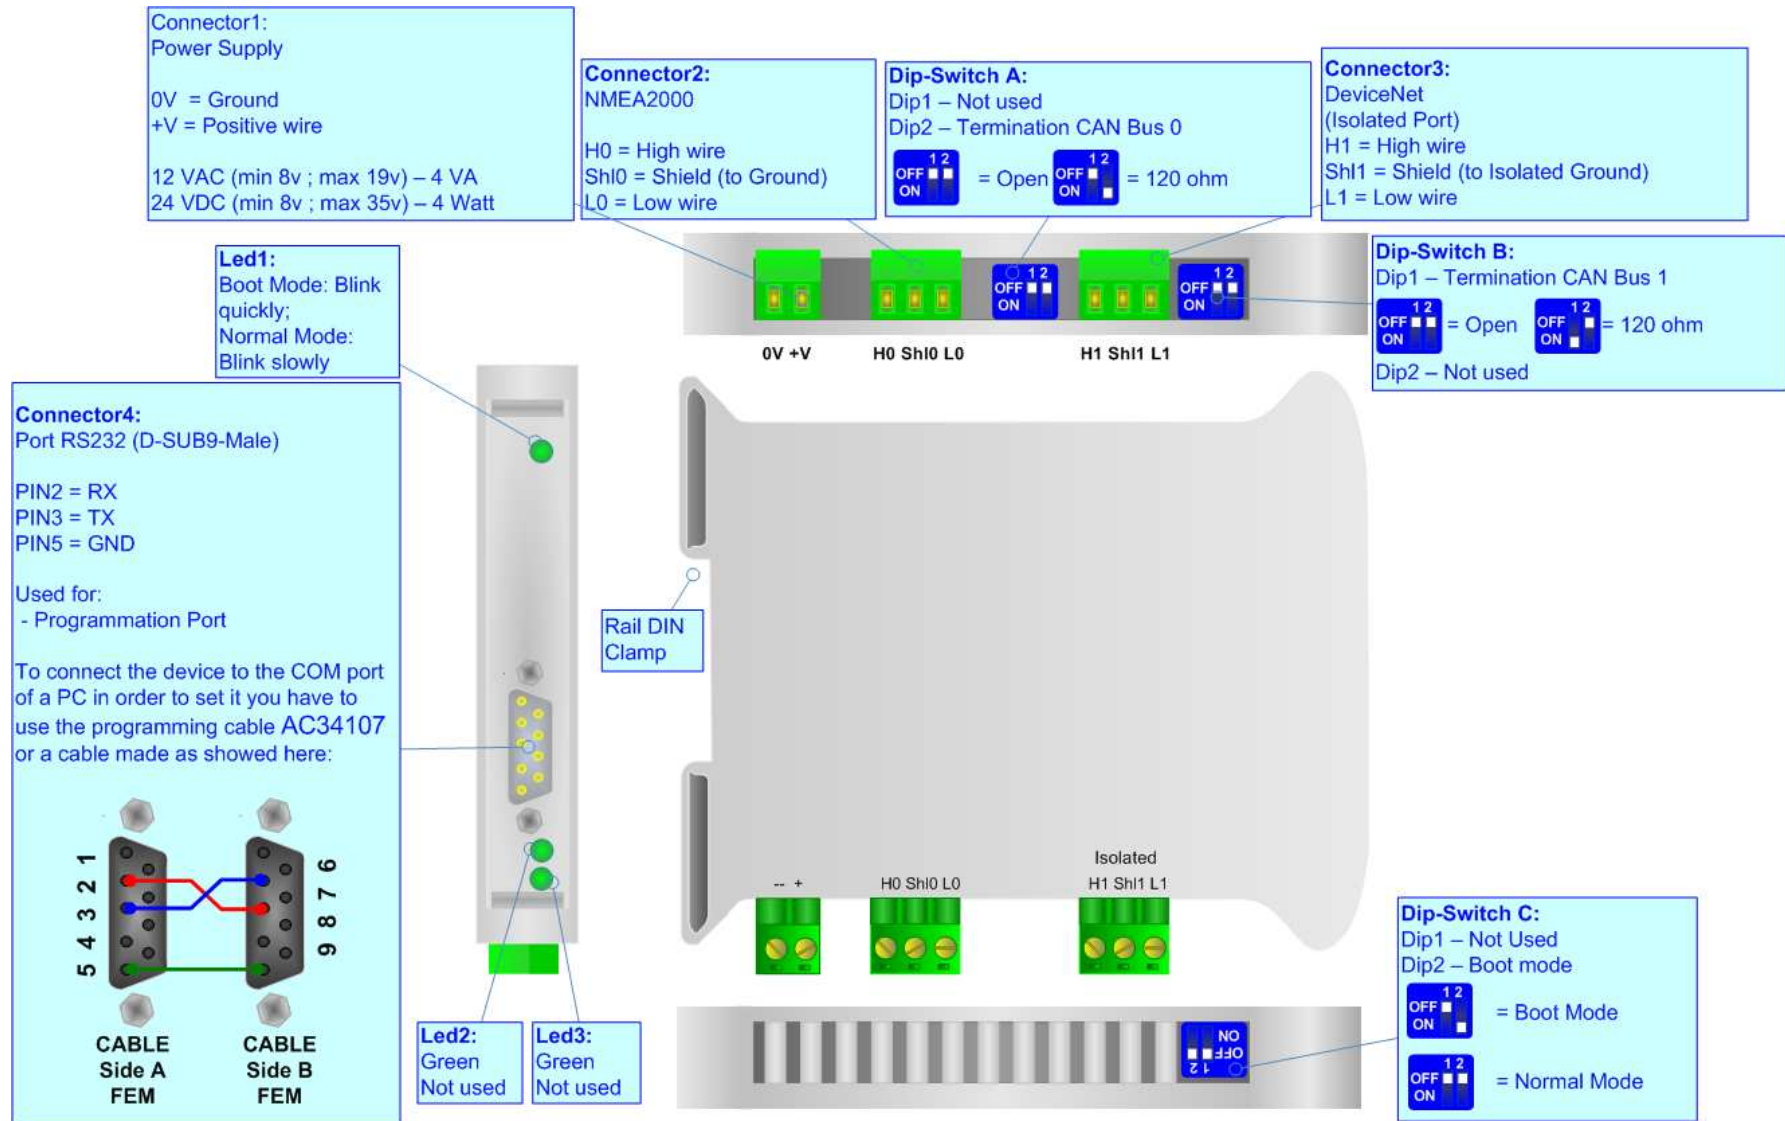

Figure 1: Connection scheme for HD67251-A1
- Insert the Boot Jumper (see the Fig. 1 for more info);
- Check the "BOOT Led". It must to blink quickly (See the Fig. 1 for more info);